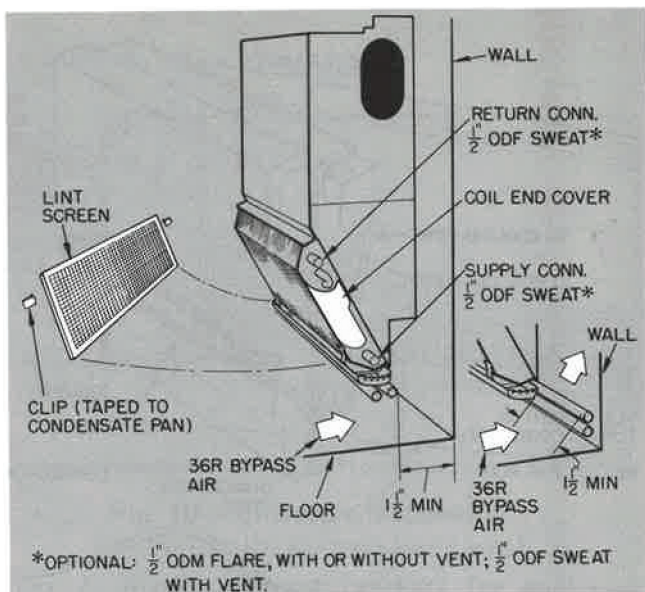

Fig. 6 — Piping Connections
3. Locate piping as shown in Fig. 6. Piping may run behind 36S units.